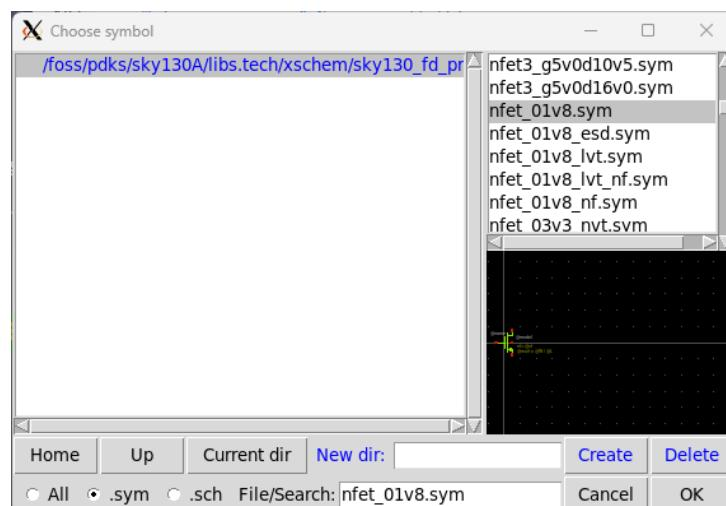

Figure 3: Path and component for an nmos transistor instantiation
- For instancing components pressing the **insert** key. **Please, pay attention on the path:** transistors are encountered into the library `/foss/pdks/sky130A/libs.tech/xschem/sky130_fd_pr`, which we will name from now as the **technology folder**. The specific components to choose are **nfet\_01v8.sym** and **pfet\_01v8.sym** for the *nmos* and *pmos* respectively. See Fig. 3 for reference. **Note:** Be careful NOT TO SELECT the three terminals devices **pfet3** or **nfet3**!